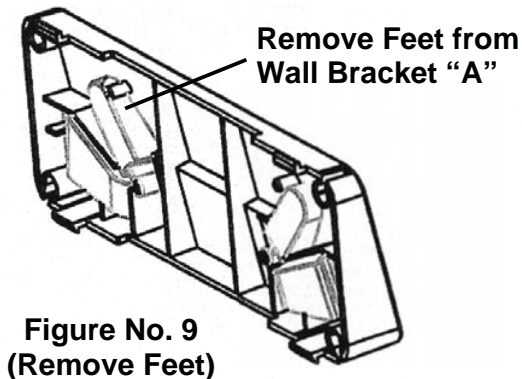
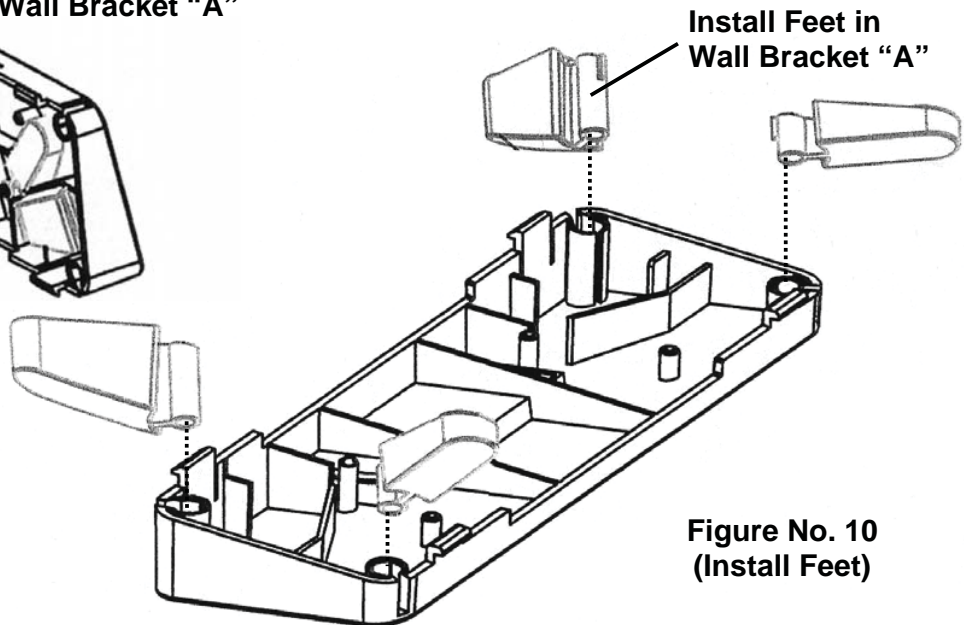

Figure No. 9
Figure No. 10
2. Referring to Figure No. 9, remove the four (4) feet from inside Wall Bracket "A" and install them in each corner of the bracket as shown in Figure No. 10.